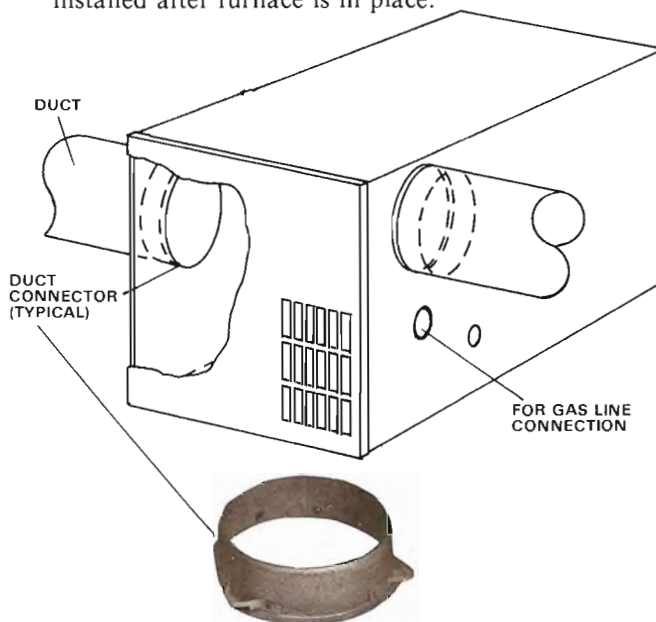

Figure 10
3. Provision has been made for a quick-connect round side duct adapter (Part No. 4316-644) for each in connecting the 4-inch diameter ducting to the furnace. The quick-connector adapter is shown in Figure 10. These must be installed after furnace is in place.